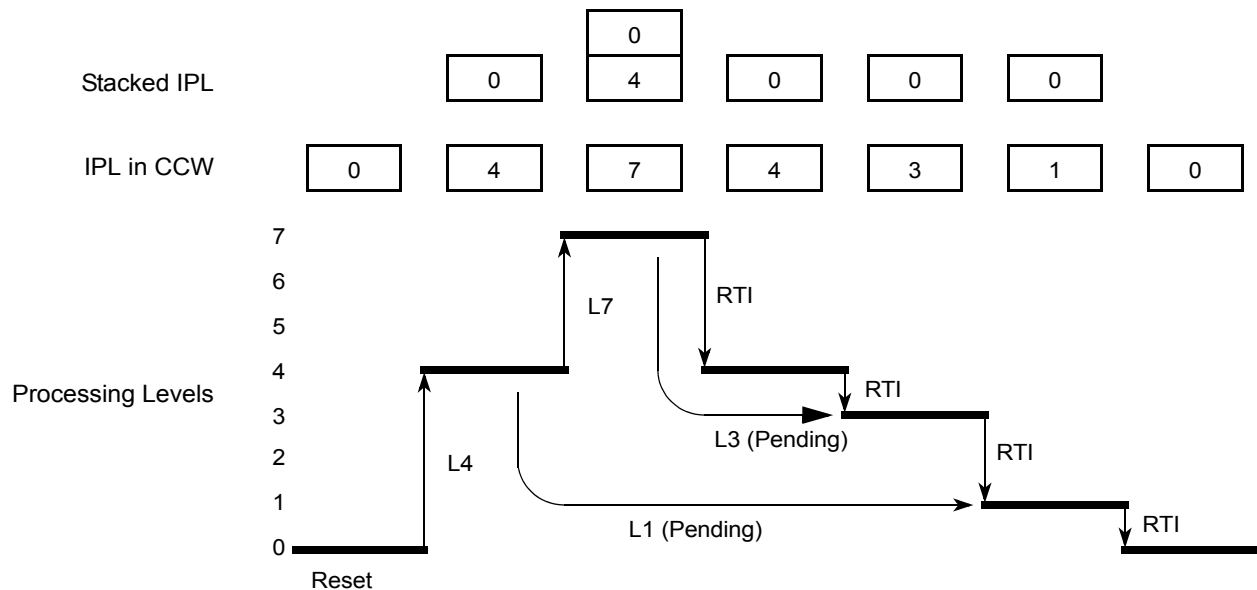

Figure 62. Interrupt processing example
- I-bit maskable interrupt requests can be interrupted by an interrupt request with a higher priority, so that there can be up to seven nested I-bit maskable interrupt requests at a time (refer to Figure 62 for an example using up to three nested interrupt requests).